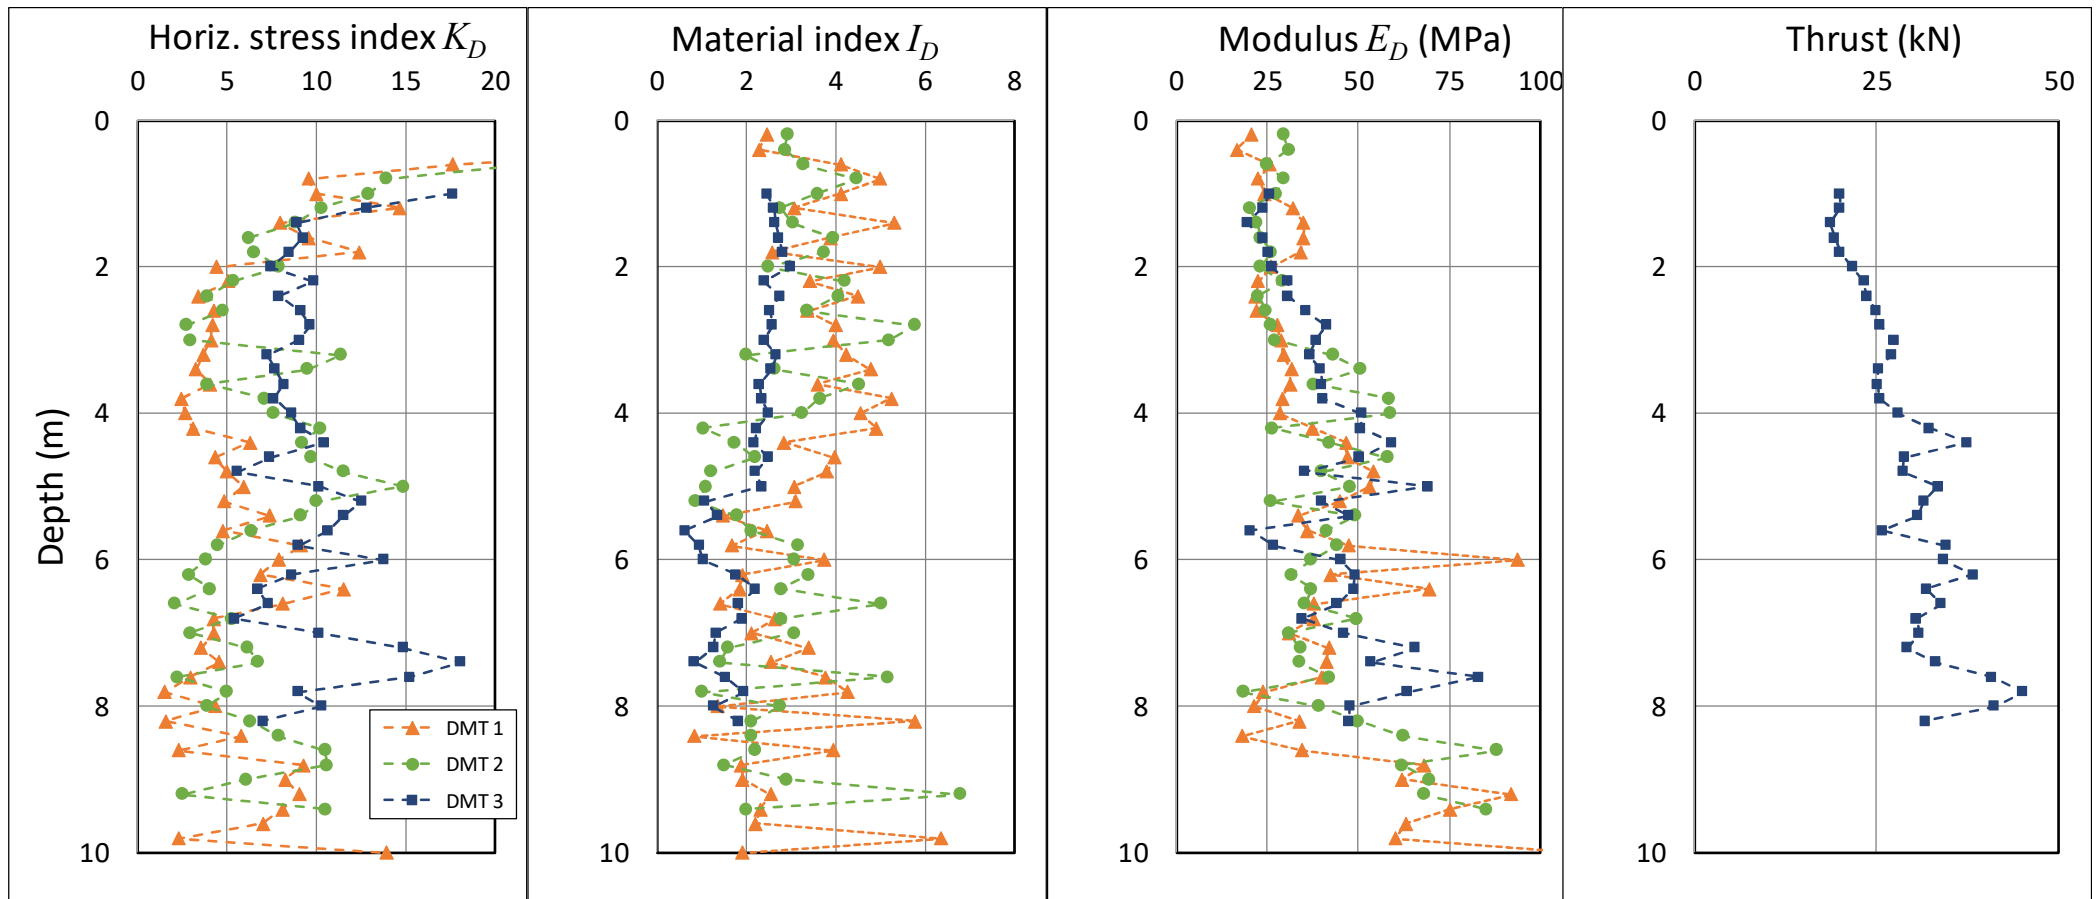

Figure B6: SAND PROFILE - Summary of Dilatometer results
- Figure B6: Dilatometer test results